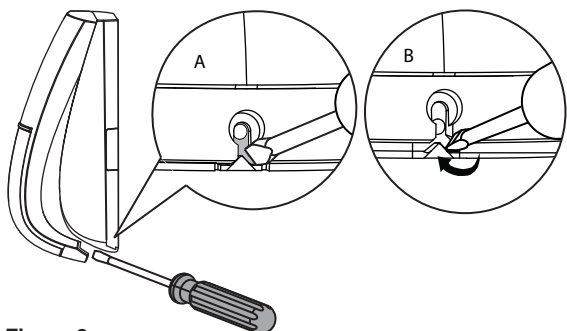

Figure 2.
2. Using a suitable tool, open the following knockouts on the detector's base (see Figure 2).